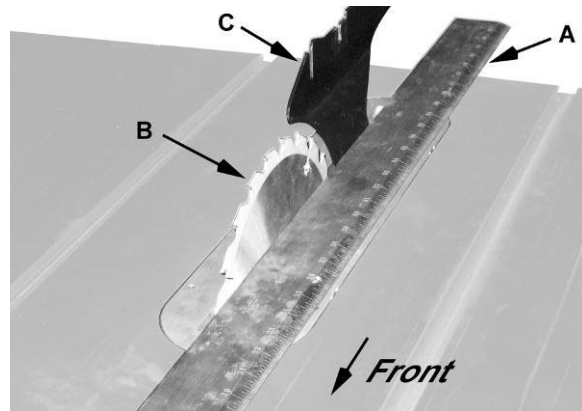

Figure 13
2. Place a *straightedge* (A, Fig. 13) on the table so it rests against the *blade* (B, Fig. 13) and *ripping knife* (C, Fig. 13). Rotate the blade so the top of the blade tooth touches the straightedge.